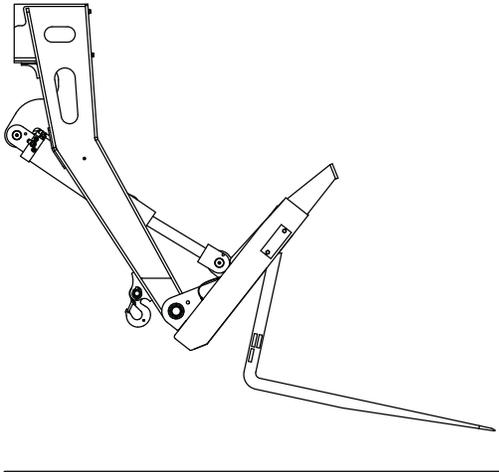

Figure 47 Fork Pivoting on the Bar
3. Tilt the attachment forward until the fork pivots on the bar, and no longer resting on the carriage's bottom rail (see Figure 47). This prevents binding on the bar, thus aiding its repositioning.